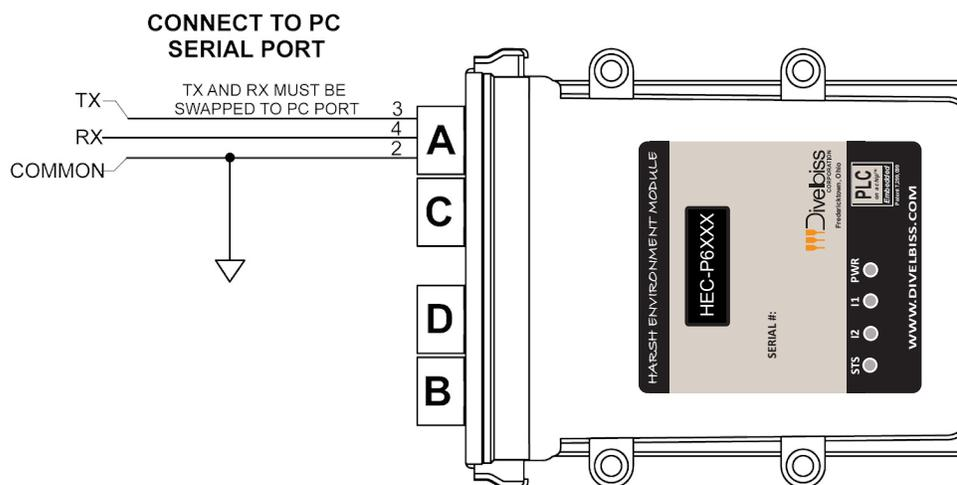
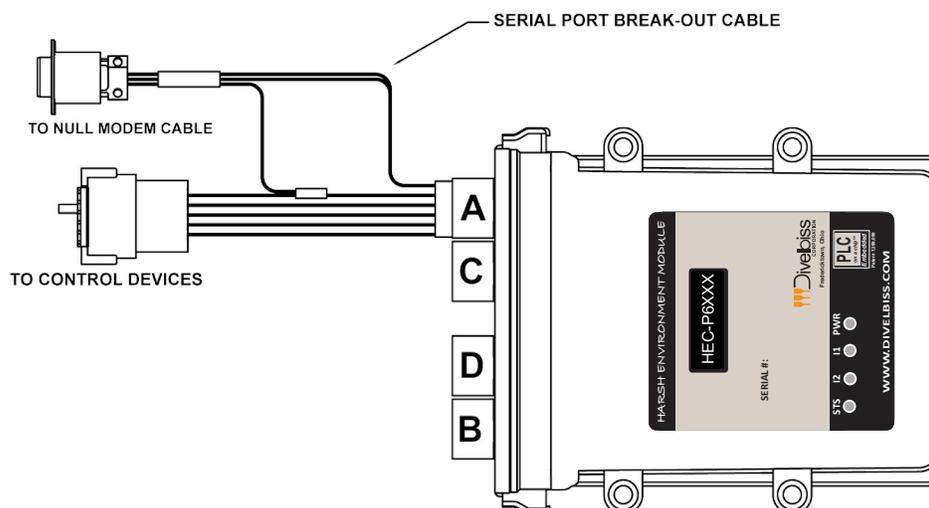

Figure 2.1 - Programming Port Direct Connection
Figure 2.2 - Programming Port Break-out Cable
- The HEC-P6XXX Programming Port is wired through the A Connector using pins 2, 3 and 4. The Programming Port requires a NULL MODEM cable or connection to the computer to establish communications between EZ LADDER Toolkit and the HEC Controller. Figure 2.1 represents a direct wiring connection from the PC to the HEC-P6XXX controller. The HEC-P910 programming break-out cable is an in-line cable that allows for programming connections while still connecting the A connector and field devices (as shown in Figure 2.2). **It is strongly recommended to purchase this break-out cable to use with a null modem cable. Free technical support is not provided to trouble-shoot communications problems with self-made programming cables.**